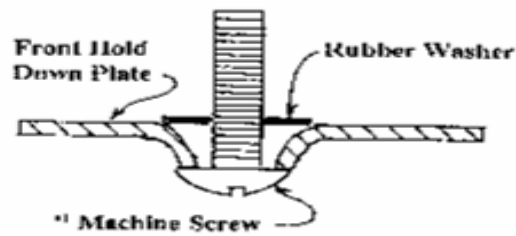

Fig. 2: Front Hold down Plate
2. On the windshield frame, remove the convertible top hold down plates using the #30 Torx bit. Place the supplied round headed machine screws through the plate (bolt shank up) and secure with the supplied rubber washers. (see fig. 2). Refasten the plates to the windshield frame